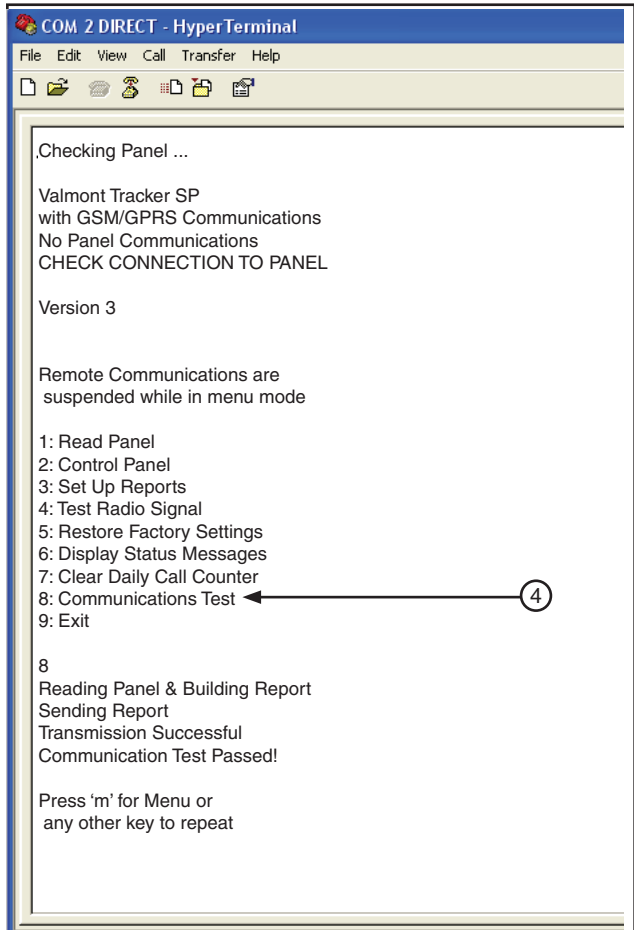

Figure 28-1
4. At the Main Menu, press 8 to run a Cellular Communications Test. See figure 28-1.